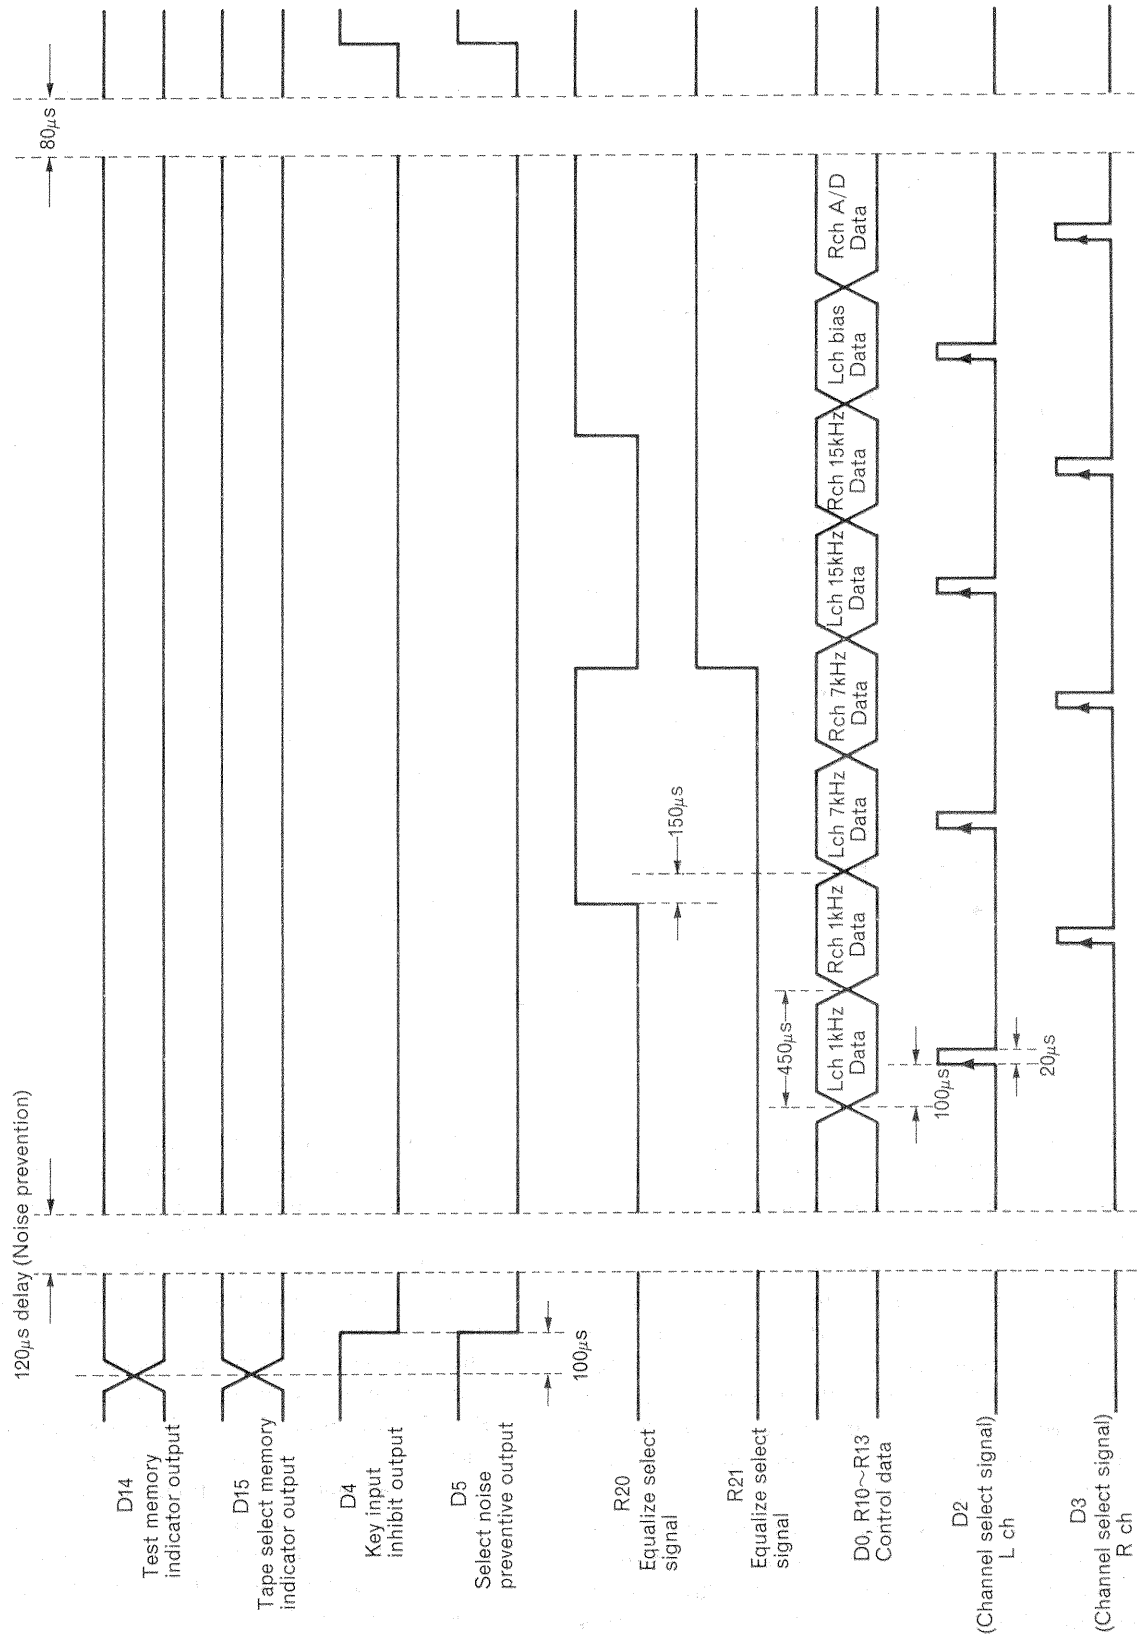

Fig. 11
- Fig. 11 shows the data transfer timing chart for the total of 8 circuits of both L & R channels.